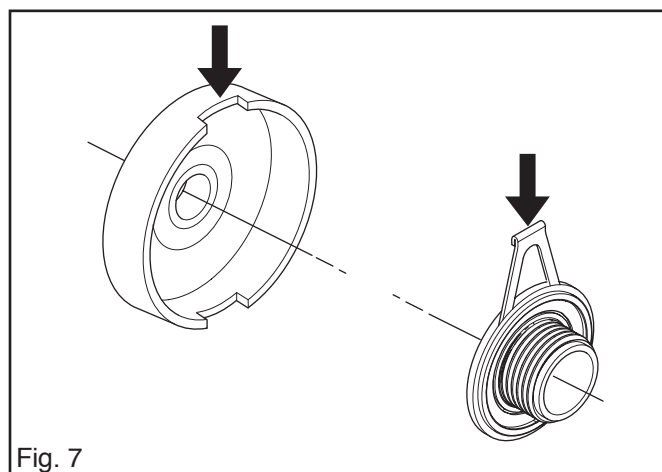

Fig. 7
10. Exercise care to ensure that the clutch drum and oil pump gear fit in the drum's cut-out. See fig. 7.